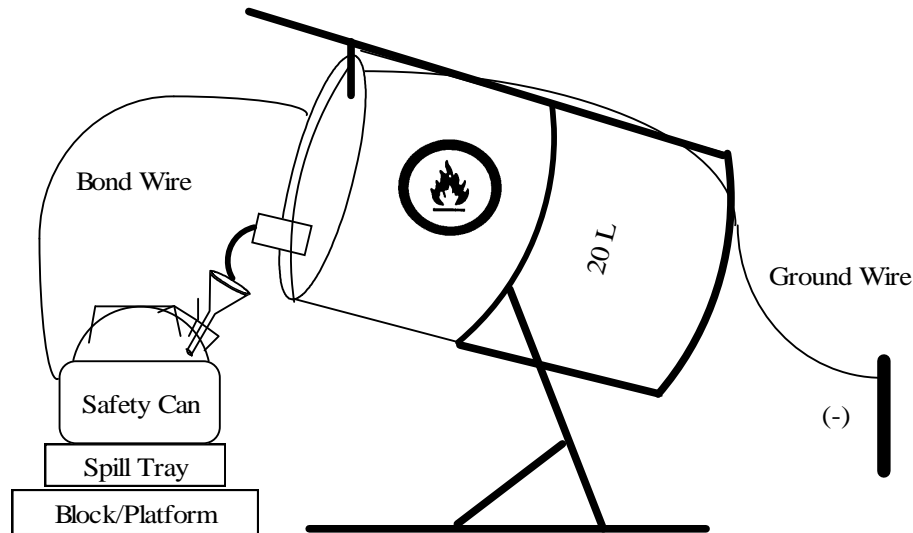

Figure 2
- d. Using arm of pail rack, slowly rotate can down to pouring position. (see Fig. 2).